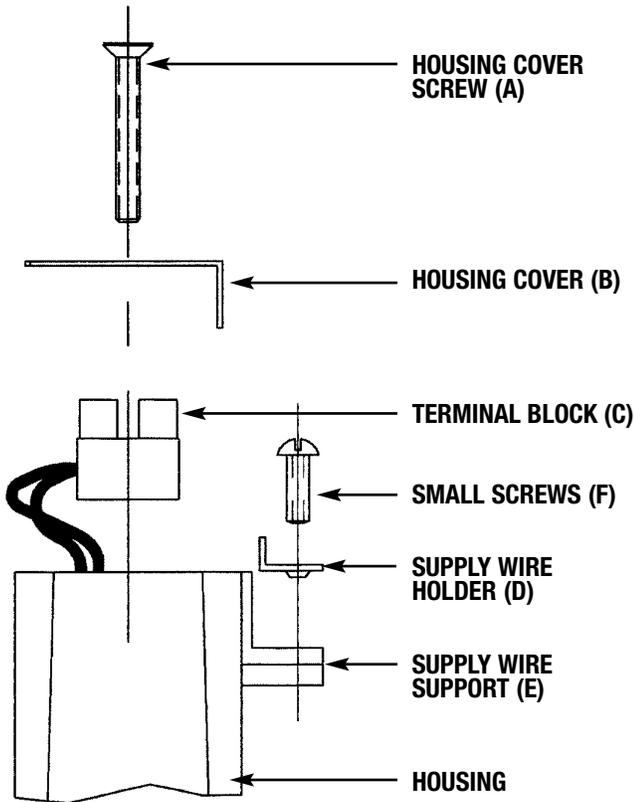

FIGURE 2
3. Remove housing cover screw (A) and remove housing cover (B) (See Fig. 2).
5. Insert each stripped conductor into the terminal block (C). Secure in place by tightening screws on terminal block (C).
6. Secure supply wire to housing by placing supply wire on support (E), then place supply wire holder (D) on supply wire and secure in place by tightening small screws (F).
7. Replace housing cover (B) and secure by reinstalling housing cover screw (A).